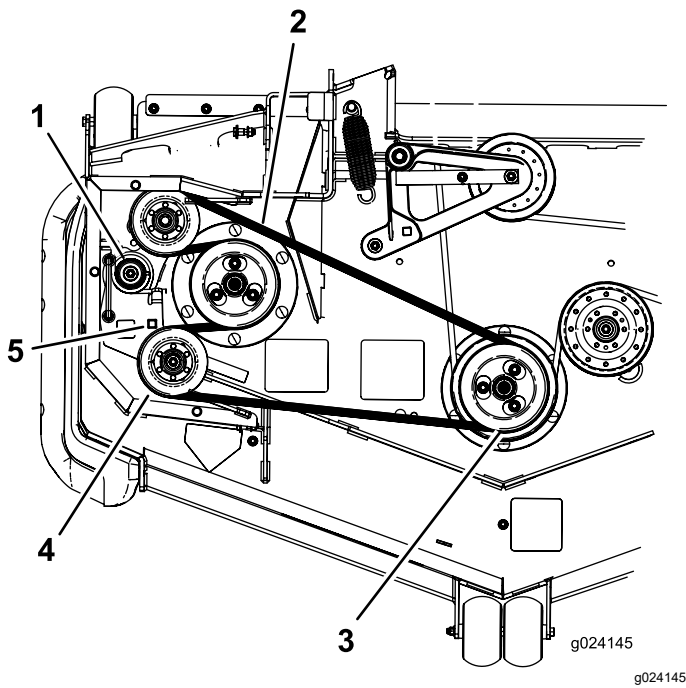

Figure 79
7. Use a ratchet in the square hole in the idler arm to remove tension on the idler spring (Figure 79).
8. Remove the belt from the mower deck pulley (Figure 79).
9. Remove the belt from the remaining pulleys (Figure 79).
11. Using the ratchet in the square hole, remove the tension on the spring, and guide the new belt around the idler pulley (Figure 79).